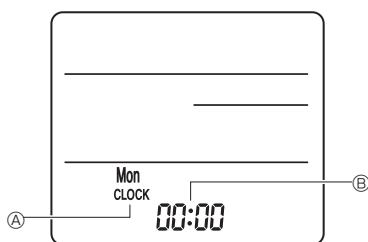

Fig. 6-4
- 3) Setting (Clock setting) (Fig. 6-4)
- ① Insert batteries or press the Ⓛ CLOCK button with something sharp. [CLOCK] ④ and [:] ⑤ blinks.
- ② Press the Ⓛ button with something sharp.
- ③ Press the Ⓛ button to set the time.
- ④ Press the Ⓛ CLOCK button with something sharp at the end. [CLOCK] and [:] lighted.